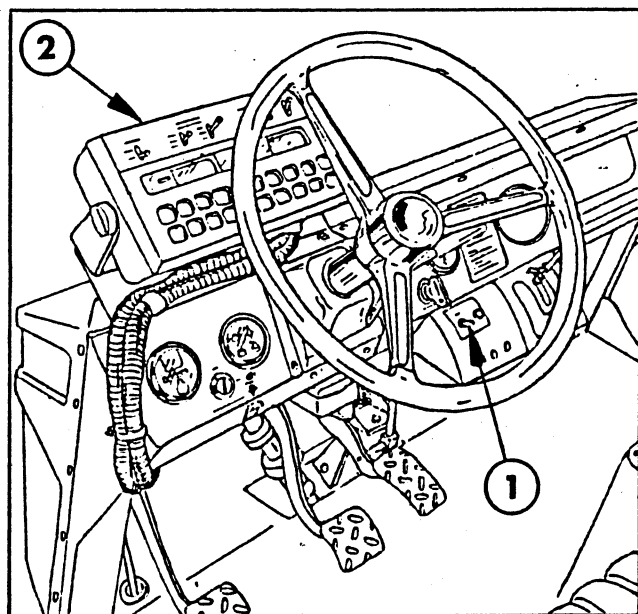

FIG. 1
(FIG 1): This switch located on the lower dash panel, when turned to the "ON" position, engages the pump drive belt. Turn the switch to the "OFF" position to disengage the pump drive belt.
**CONSOLE COMPUTER** (FIG 1): Receives data for desired rate of application and automatically maintains that rate, regardless of vehicle speed. See the "Raven SCS 440 Installation and Service Manual" for programming instructions.